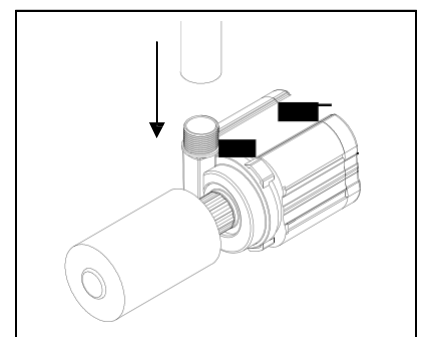

Fig. 9
- Place the pump inside the basin and connect the tubing to the pump. Fig. 9